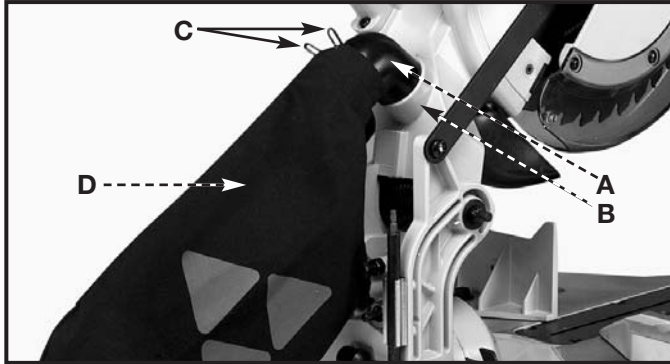

Fig. 3
1. Attach dust spout (A) Fig. 3 to port (B).
2. Depress spring clips (C) Fig. 3 of dust bag (D) and clip dust bag (D) over rib of dust spout (A).